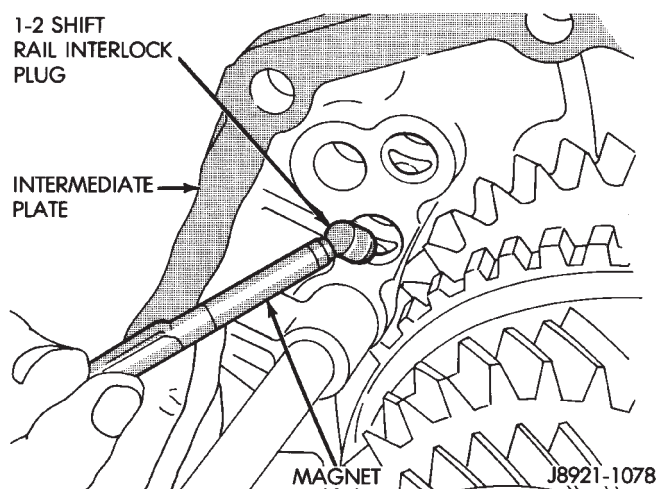

Fig. 48 Removing 1-2 Shift Rail Interlock Plug
(8) Remove 1-2 shift rail interlock plug from intermediate plate (Fig. 48).